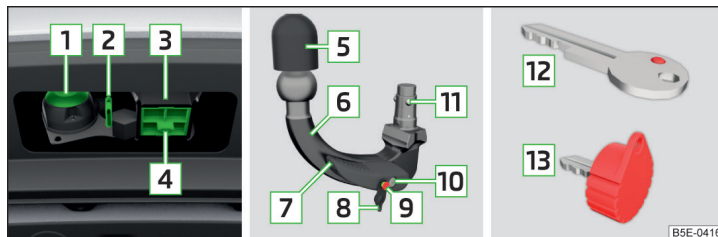

Fig. 178 Support for the hitch equipment / ball bar / key (Version 1 and 2)
Support for the Towing hitch and tow bar » Fig. 178
- > Remove the cover for the mounting recess **4** » Fig. 178 on page 166 in a downwards direction.